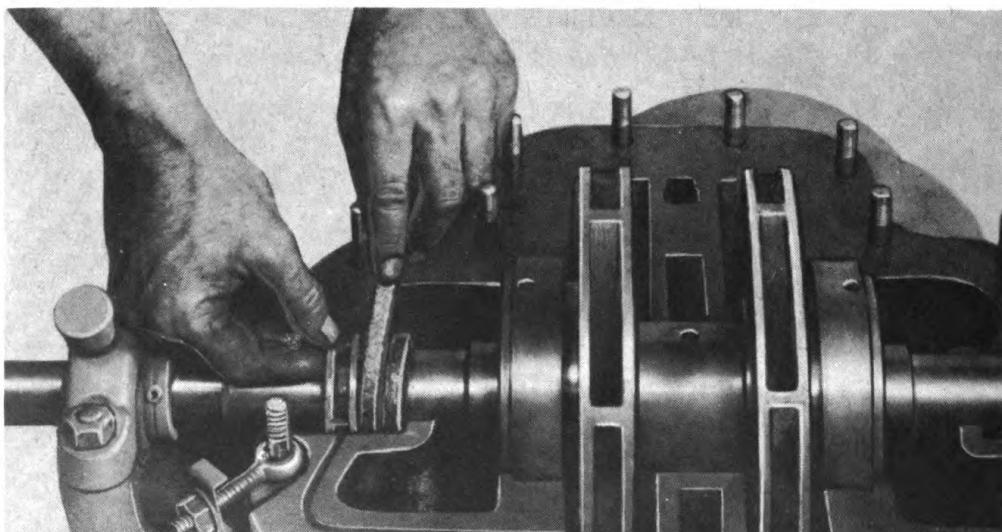

Figure 51—Packing Coupling End of Shaft
- a. In packing the shaft, work from the coupling end and insert the packing rings by forcing down around the shaft staggering rings so that the ends come reverse of each other in order to bind and overlap the ends. After second ring is placed, bring lantern ring into position aligning with the groove in the volute. Then add three additional rings outside on the lantern ring. (Figure 51.)